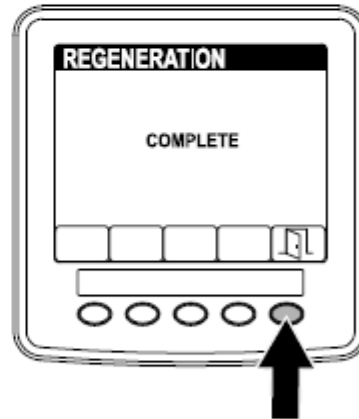

Figure 10
5. When regeneration completes, the COMPLETE screen displays in the InfoCenter. Press button 5 to return to the SERVICE menu (Figure 10).